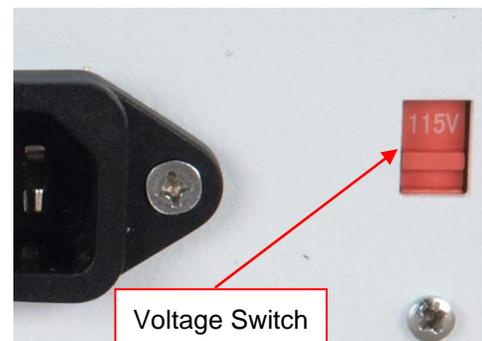

Fig.3
- 2) Find the voltage switch on the back board. See **Fig 3**